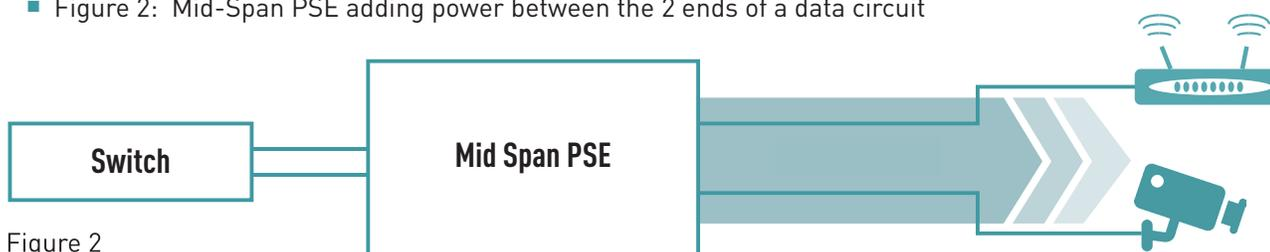

Figure 2
- Figure 2: Mid-Span PSE adding power between the 2 ends of a data circuit